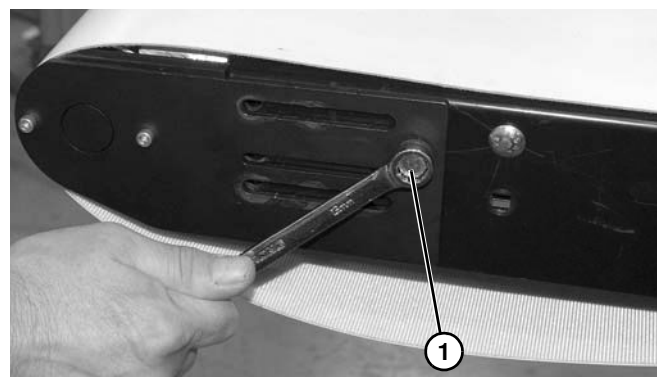

Figure 103
5. Remove remaining screw (Figure 103, item 1) on each side.